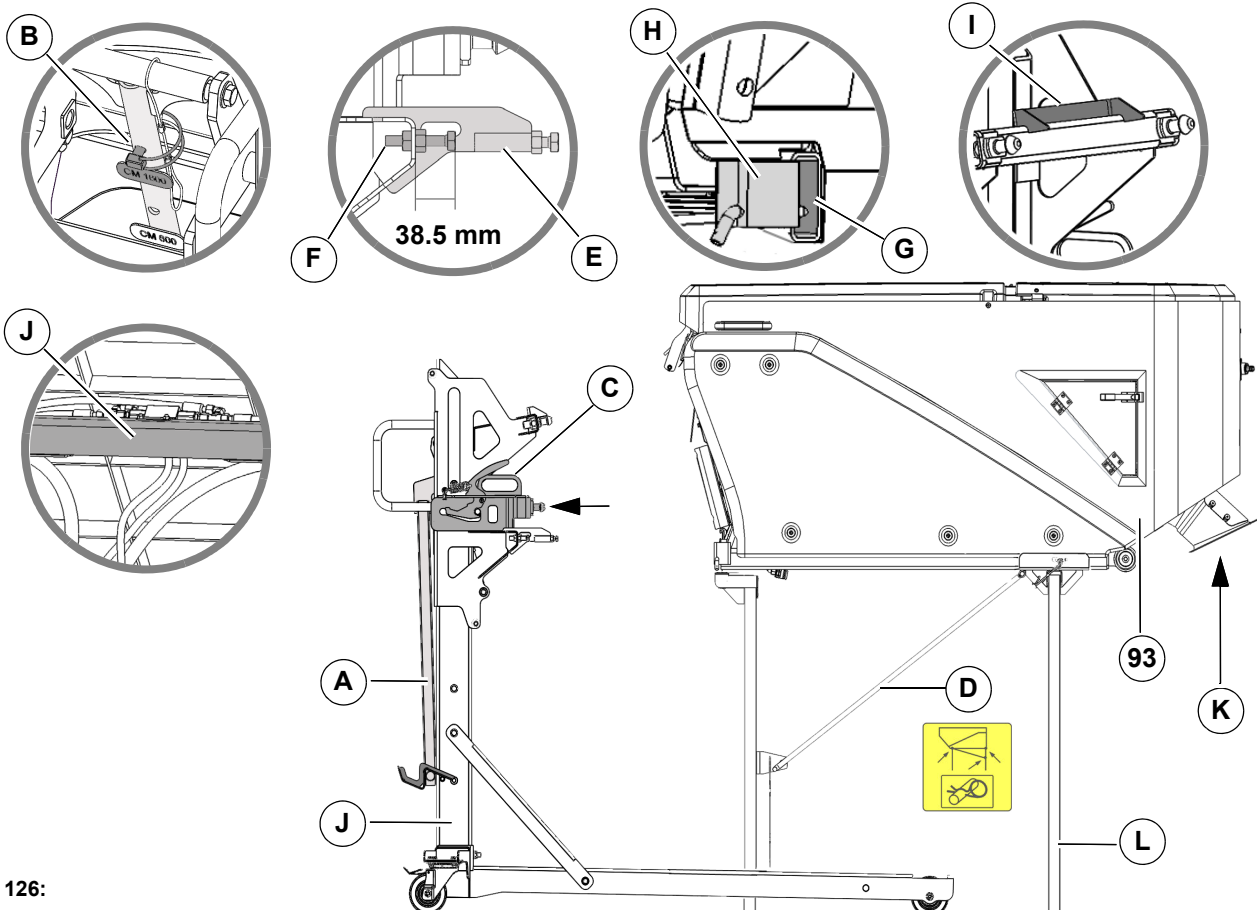

Fig. 126:
Risk of injury due to tilting over! Make sure that the cross strut **Fig. 126-D** (optional) has been inserted when transporting the dirt hopper on the supports **Fig. 126-L**. Secure the supports with bolts and splints.
6. Push the trolley **Fig. 126-J** (optional) with the lower positioning aid **Fig. 126-E** into the spars **Fig. 126-G** and against the fixed bearings **Fig. 126-H** of the dirt hopper. The screw **Fig. 126-F** must be adjusted to 38.5 mm!
7. Carefully lower the lever **Fig. 126-A** of the trolley and make sure that the upper positioning aid **Fig. 126-I** sits behind the plate **Fig. 126-J** of the dirt hopper. Lock the lever.
8. Remove the supports **Fig. 126-L**. To do this, pull out the split pins and the bolts.
During mounting protect the seal **Fig. 126-K** of the suction nozzle with a cover plate.